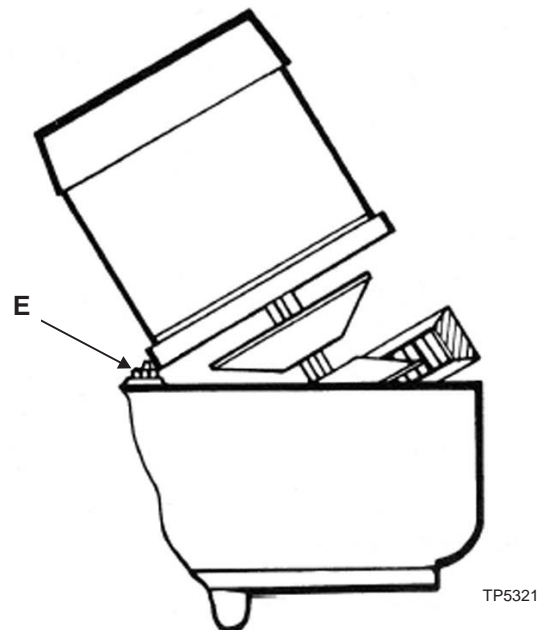

Figure 8.2 - Motor Removal
8. Lift the motor and rest the case on stud "E", Figure 8.2.